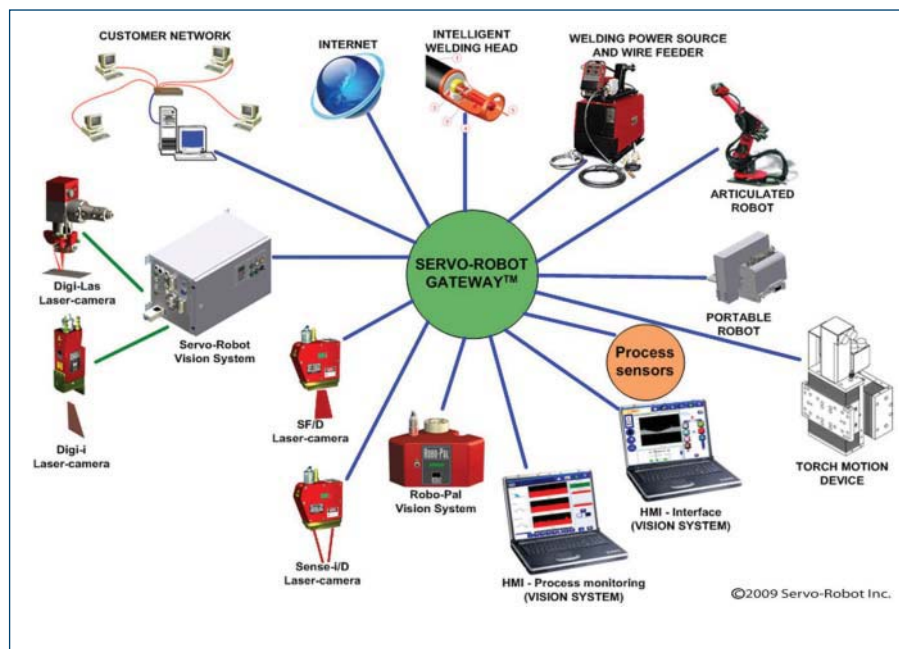

Fig. 8 — Ethernet welding gateway.
- Instant communication through Ethernet via a TCP/IP network — Fig. 8.